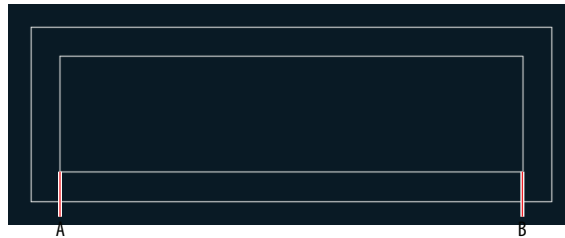

FIGURE 10.3 Specifying the ends of a fit baseline
6. Click points A and B in Figure 10.3. A blinking cursor appears.